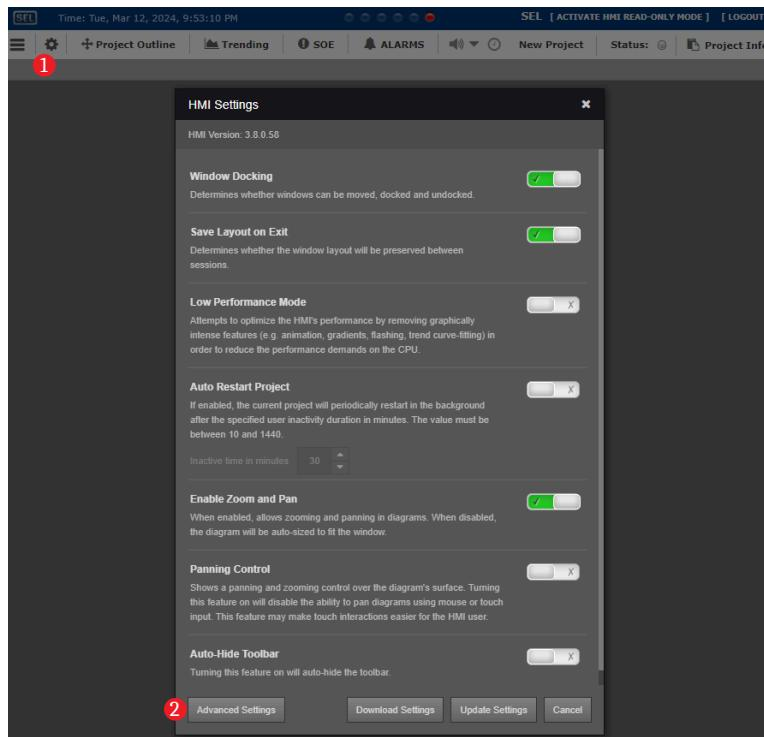

Figure 3.51 HMI Settings Menu
- Step 2. Click the gear icon to open the HMI settings window, as shown in *Figure 3.51*.